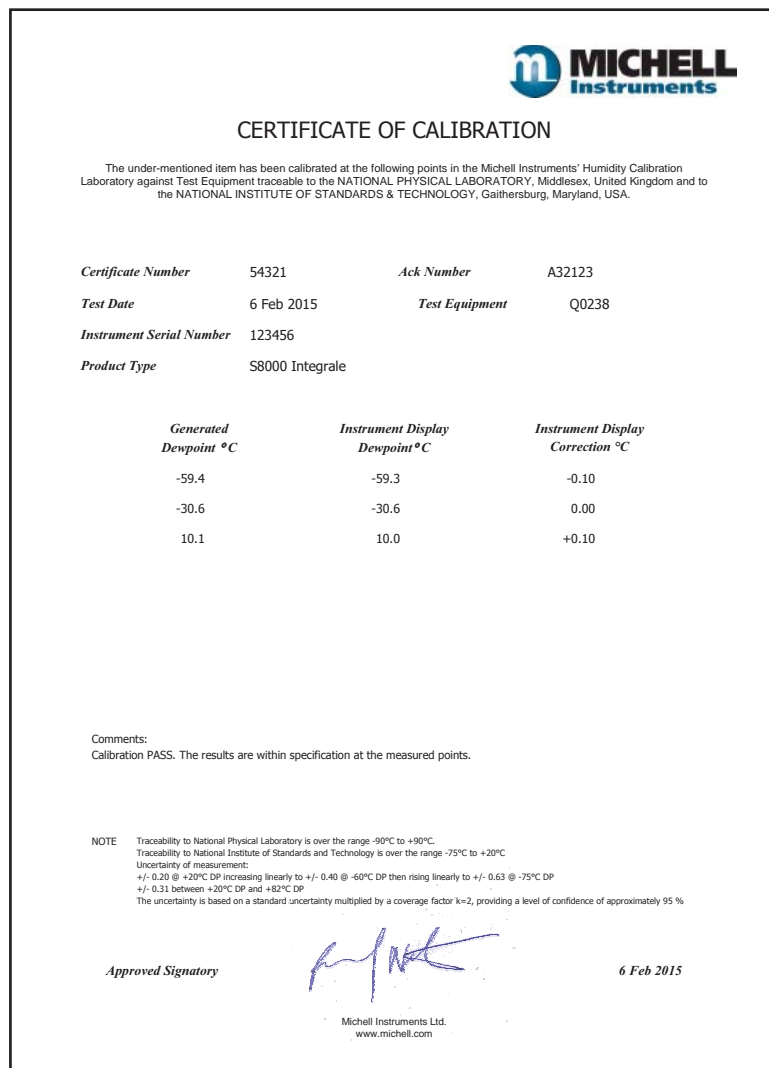

Figure 41 Typical Calibration Certificate
8. Pack the instrument in its original case as shown in *Figure 41*. **NOTE: The accessories should be packed in the box (4). Unless returning for repair, it is not necessary to return either the microscope or the analog and alarm connectors. All cables and the remote PRT probe (if supplied) should be returned for checking.**